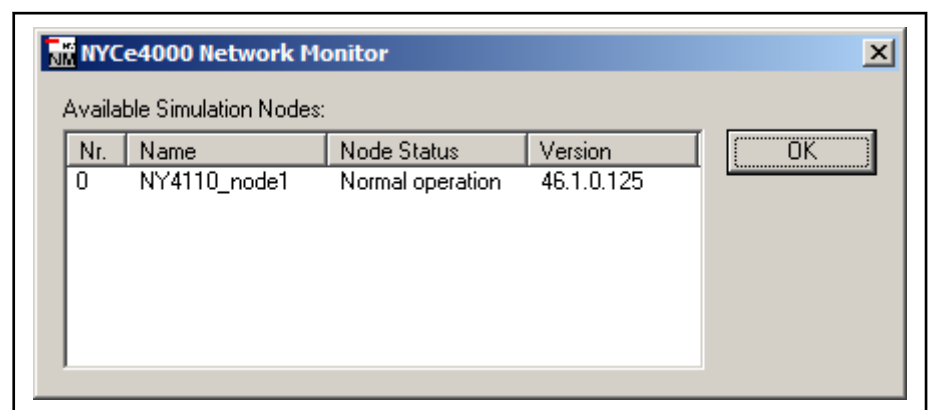

Fig. 10-2: The NYCeNetMonitor window
- NYCeNetMonitor has a small window which only displays the status of the nodes in the selected network, nothing else. For example, if you have multiple nodes you can directly see and compare the firmware versions of all the nodes, see fig. 10-2 "The NYCeNetMonitor window" on page 227.